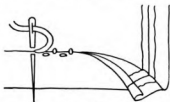

FIGURE 122
*Method of Sewing in a Hem* (Figure 122). — In putting in any kind of a hem, always begin at a seam, sewing from right to left, holding the work over the index finger of the left